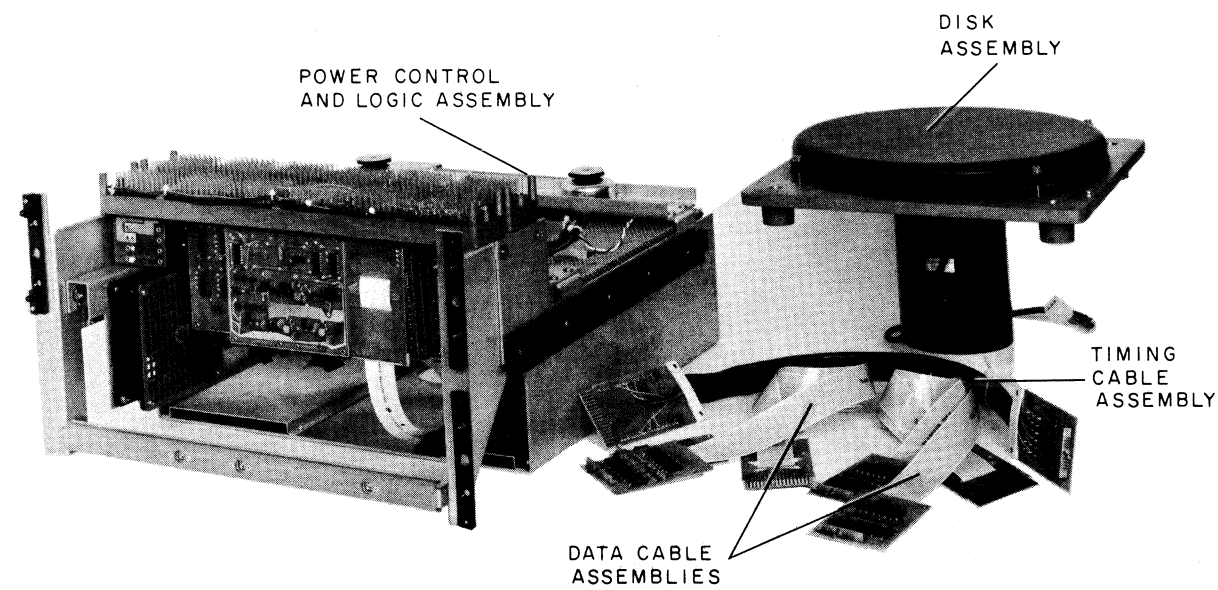

Figure 1-2 RS64 Disk File Major Assemblies*
The disk assembly, Figure 1-2, consists of a 10-in. diameter nickel-cobalt plated aluminum disk, a drive motor, and five head assemblies mounted on a deck plate. The deck plate is supported by four shock mounts. A cover protects the disk and heads from dust and foreign particles. Data connections are made via connectors on the underside of the deck plate. A 4-wire power cord connects the drive motor to the RS64P power control and logic assembly.
1.3.3.5 Data and Timing Cable Assemblies – Two flat Mylar data cable assemblies (Figure 1-2) interconnect the data track heads with the read/write logic. Each data cable assembly handles the signals for two head shoe assemblies; it has two 8-track matrix-connector modules at the head end. One timing matrix cable assembly (Figure 1-2) interconnects the timing heads with the read/write logic. This cable has a 6-track matrix module at the disk end and a connector module at the logic end.